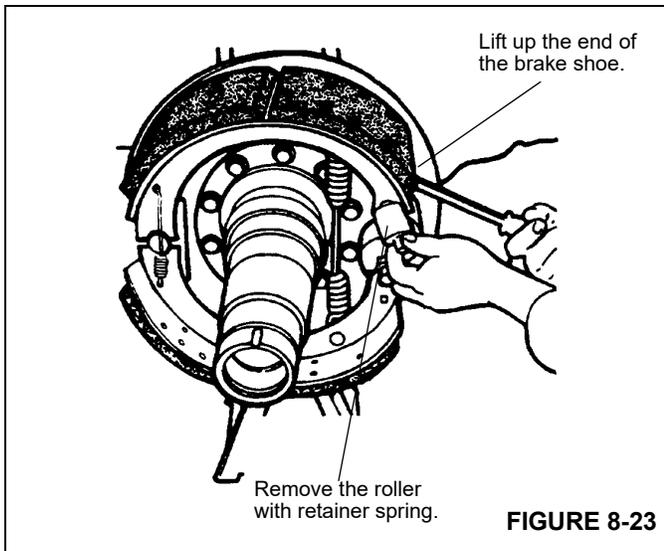

FIGURE 8-23
8. With a large screwdriver or lever (Figure 8-23), lift the upper shoe and remove the roller and retainer as a unit.